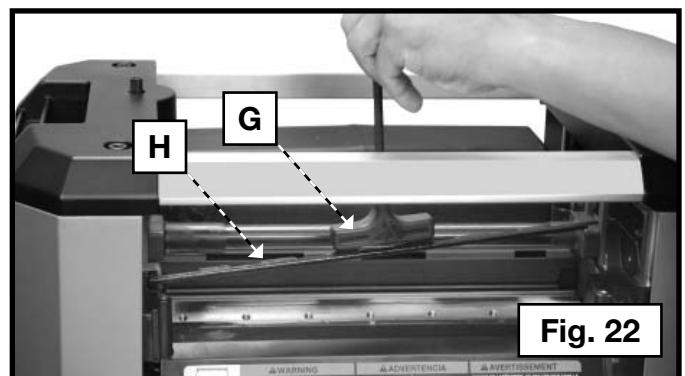

Fig. 22
5. Place the magnetized end of the wrench (G) Fig. 22 at the center of the knife. Lift the wrench until the knife (H) separates from the pins. Remove the knife.